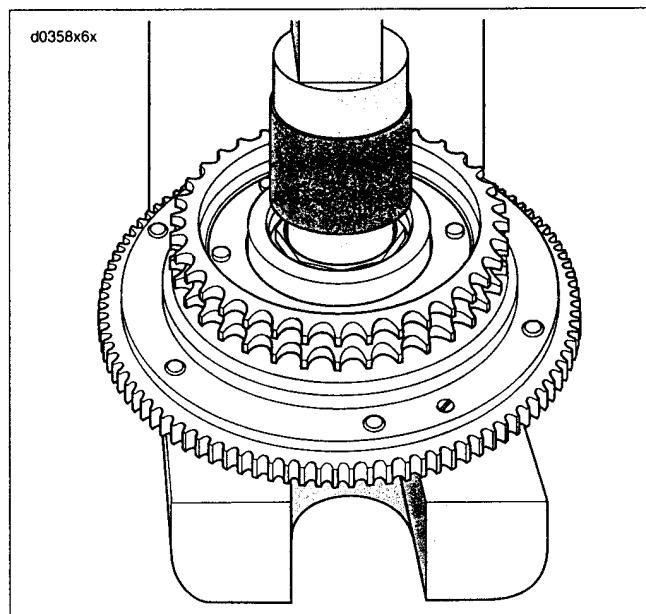

Figure 6-22. Pressing Bearing From Clutch Shell
5. See Figure 6-22. Turn clutch shell over so that sprocket side is up. Using arbor press and a suitable press plug, press on inner race to remove bearing from clutch shell bore.